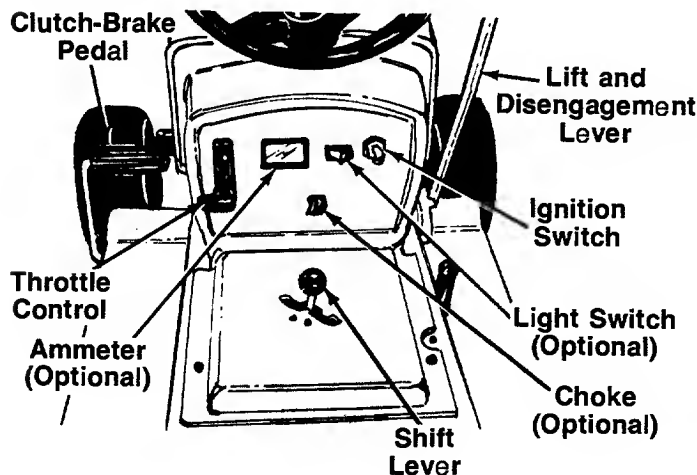

FIGURE 8.
The throttle control is used to regulate the engine speed. To get maximum efficiency from cutting, the throttle should be in the FAST position when operating the mower. See figure 8.
The choke control is located on the dashboard and is operated manually. Details for the choke operation are covered in the separate engine manual packed with your unit. See figure 8.
The shift lever is located in the center of the console and has three positions, FORWARD, NEUTRAL and REVERSE. See figure 8. The clutch-brake pedal must be depressed and the lawn tractor must not be moving when shifting gears. Do not force the shift lever.
Turn the key to the START position to start the engine. When the engine is running, let the key return to the ON position. To stop the engine, turn the key to the left to the OFF position and remove it to prevent accidental starting. See figure 8.
Push the light switch to turn on the lights. The lights will only operate when the engine is running. See figure 8.
The ammeter registers the rate of battery charge or discharge. The ammeter will register on the discharging side when starting the engine. It should register on the opposite side (charging) when the engine is running in the fast position until the battery is completely charged. With a fully charged battery or with the engine idling, the ammeter will not show a charge. See figure 8.
The clutch-brake pedal is located on the left side of the lawn tractor. Depressing the clutch-brake pedal part way disengages the clutch. Pressing the pedal all the way down disengages the clutch and engages the disc brake. See figure 8.
4. Set the throttle control in the **FAST** position. See figure 8.
6. Turn the ignition key to the **START** position. When the engine is running, let the key return to the **ON** position. See figure 8.